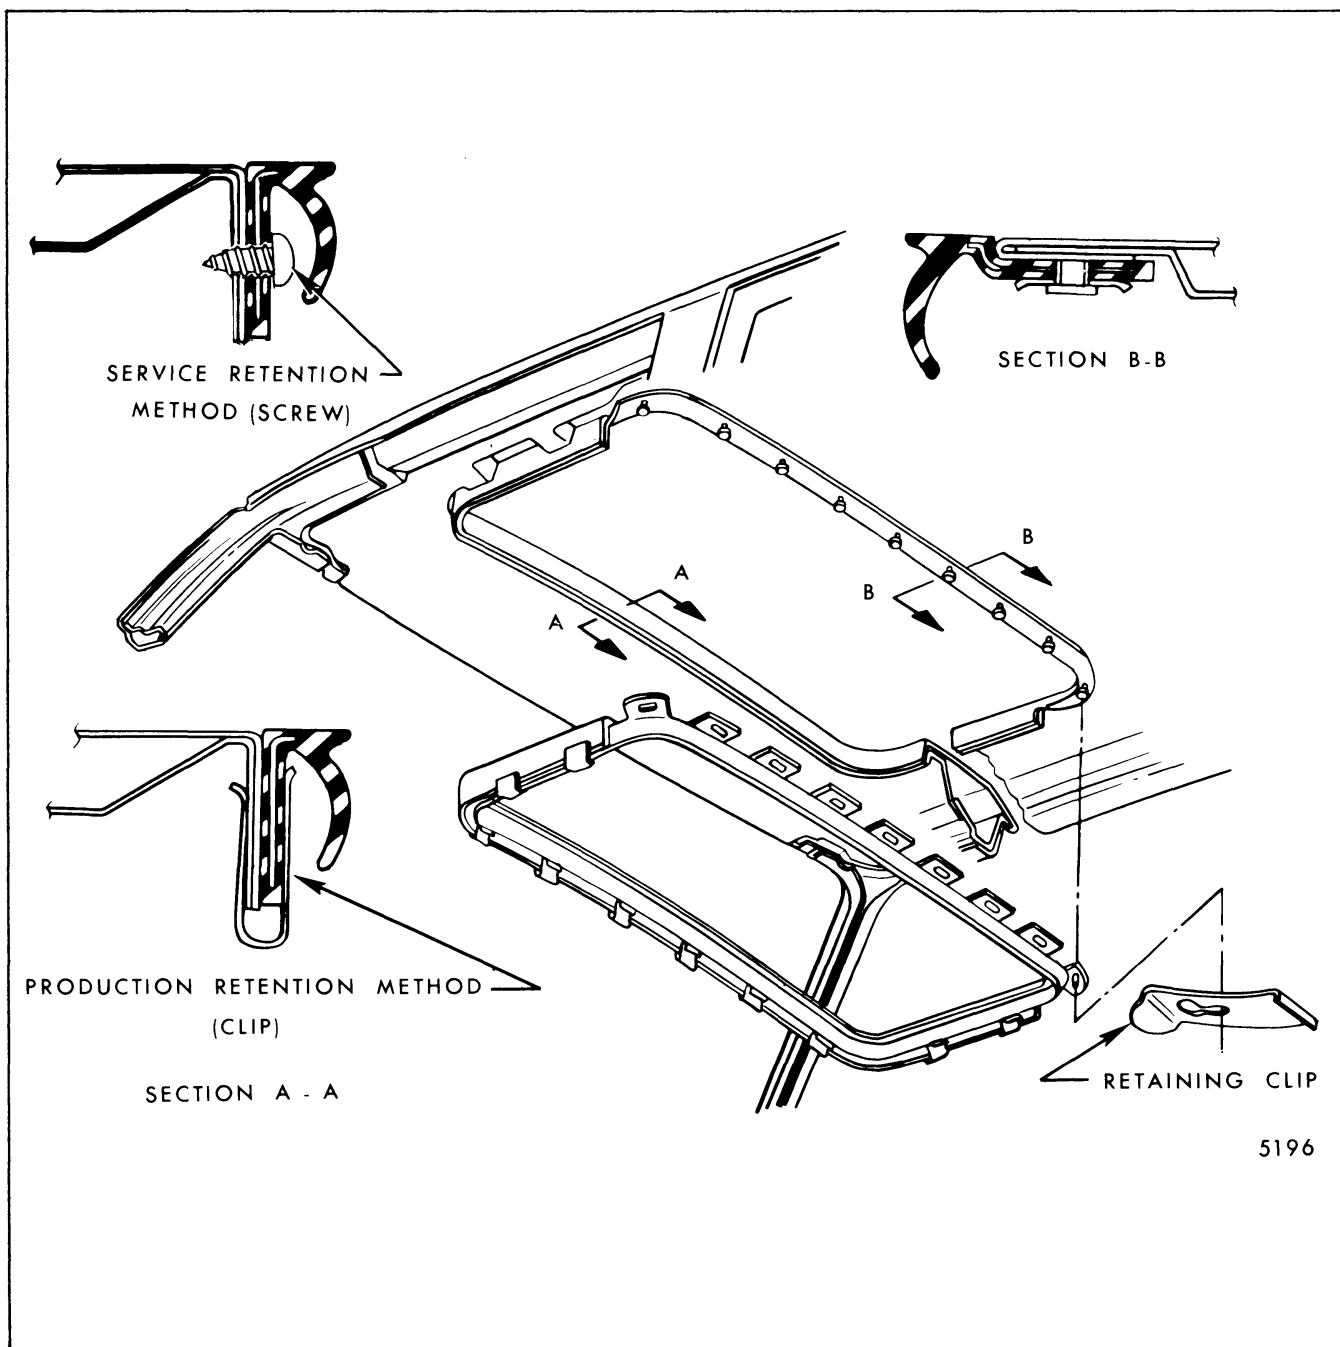

Fig. 8-49-Sunroof Opening Weatherstrip
The sunroof opening weatherstrip is fabricated of flock-coated rubber with ends vulcanized to form a continuous loop. The weatherstrip is retained at the front and sides of the roof opening by barbed clips, and by weld-stud retained clips at the rear of the opening (Fig. 8-49).
2. Remove clips retained by weld studs at rear of the opening (Fig. 8-49).
3. At front and sides of roof opening, lift weatherstrip inner lip, and with a hooked tool, spring the retaining clips out of engagement with weatherstrip and roof flange and remove weatherstrip (Fig. 8-49).
1. If original weatherstrip is being installed, as a bench operation, drill a 3/16" diameter hole in weatherstrip base at each of the original clip attaching locations (Fig. 8-49).